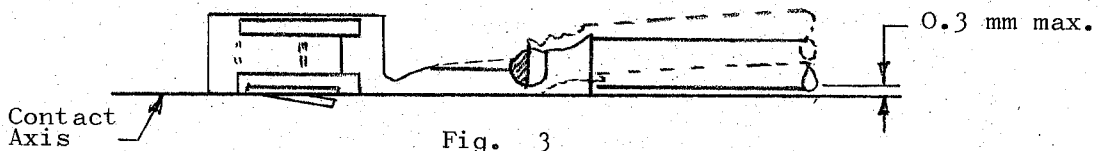

Fig. 3
(1) After crimping, bend deformation upward and downward of contact to the contact axis, shall be within the limit including the length of cut-off tab and burrs, as specified in Fig. 3.